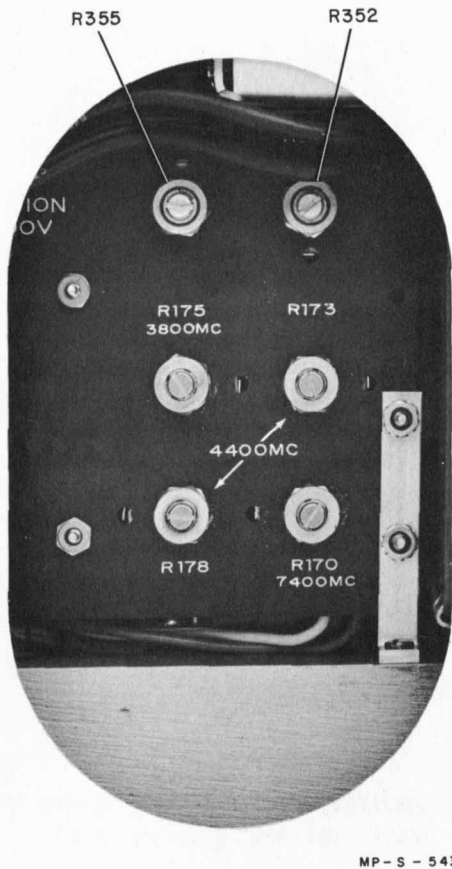

Figure 4-9. Right Side View showing Reflector Tracking Potentiometer
8) Adjust R170, shown in Figure 4-9, for optimum pulse shape.
13) Tune the FREQUENCY control back toward 7600 MC observing the pulse shape on the oscilloscope. Readjust the appropriate reflector tracking potentiometer as shown in Figure 4-9 for optimum pulse shape.